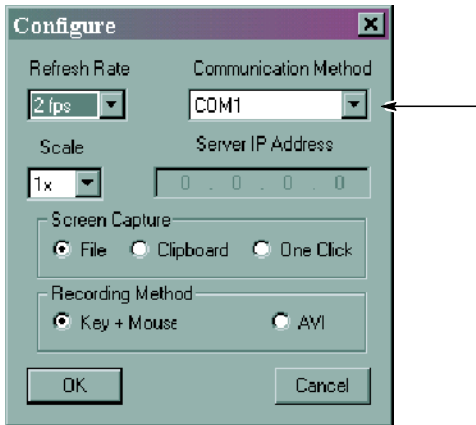

Figure 3-4: Configuring the connection
2. To configure the connection settings, click the wrench icon (). This displays the Configure window shown in Figure 3-4.